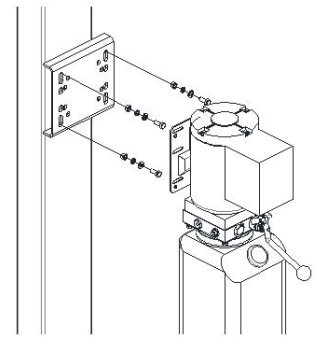

Fig. 16
7.8 Installation Of Power Unit (Ref. Fig. 16)